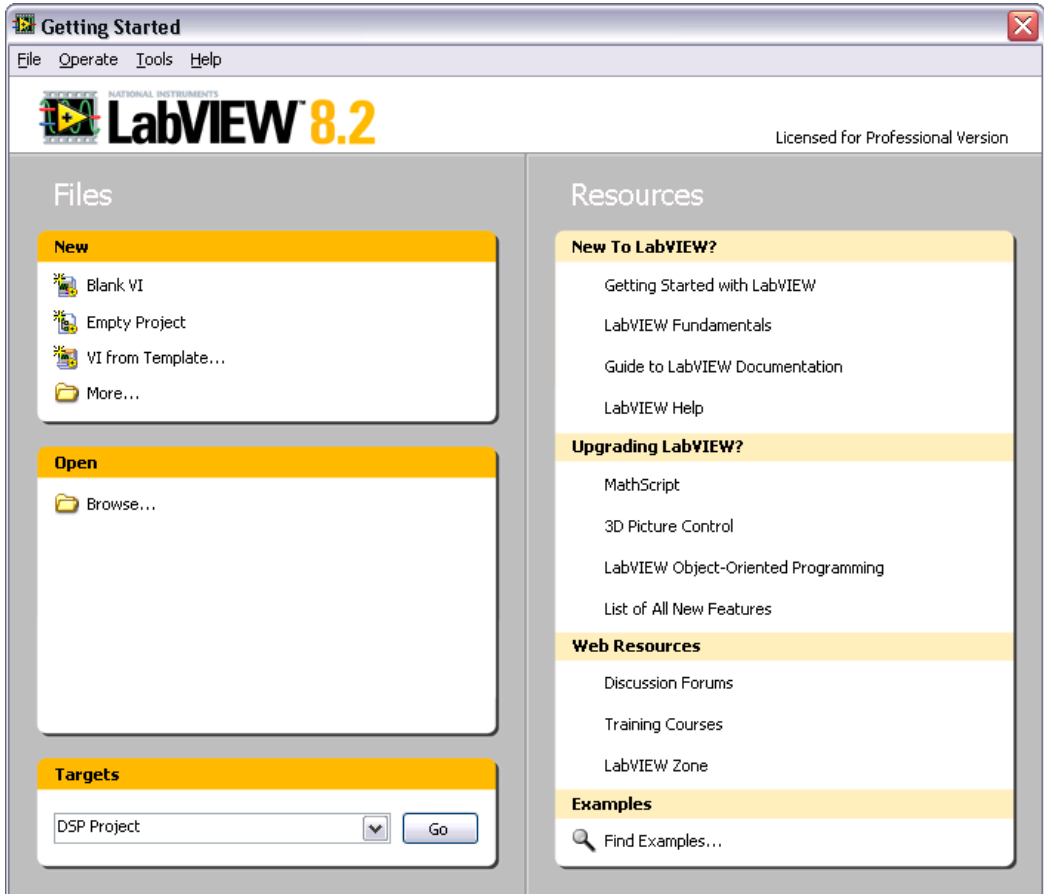

Figure 7. Getting Started Window
2. In the **Getting Started** window, shown in Figure 7, select **DSP Project** from the **Targets** pull-down menu and click the **Go** button to open the New DSP Project Wizard.